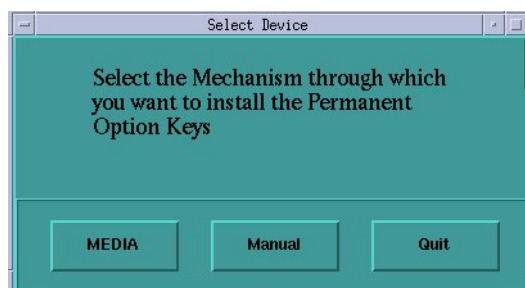

Figure 5-12 Options Window when First Selected
- 8.) Click PERMANENT. A **Select Device** window (Figure 5-12) opens.